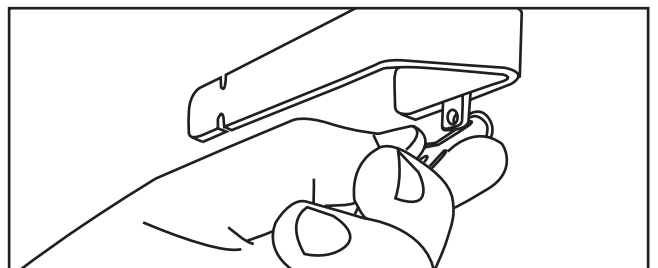

Figure 2.7.2 - Hook back baton into carrier arm eyelet
7.2 - For a back mounted baton, locate the eyelet under the carrier arms and connect the baton with a clip. See Figure 2.7.2.